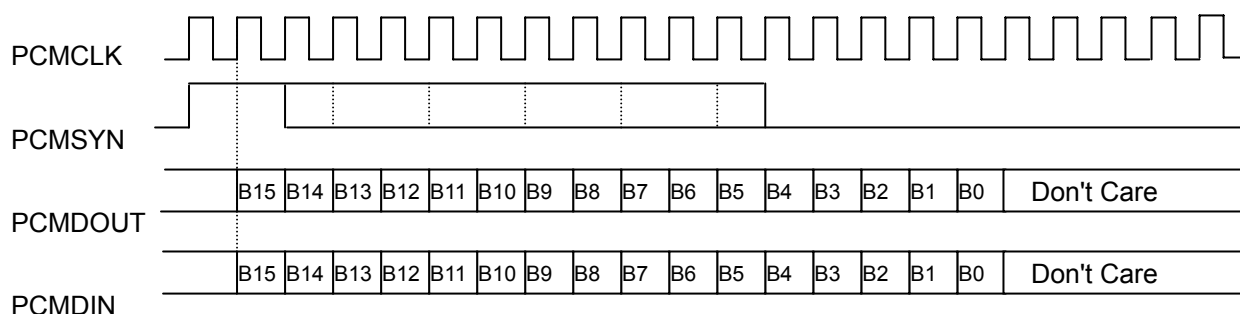

Figure 12-3 Long Frame SYN Timing (Shown with 16bit Sample)
**NOTE:** Figure 12-3 shows a PCM transfer with the MSB configured one shift clock after the PCMSYN.